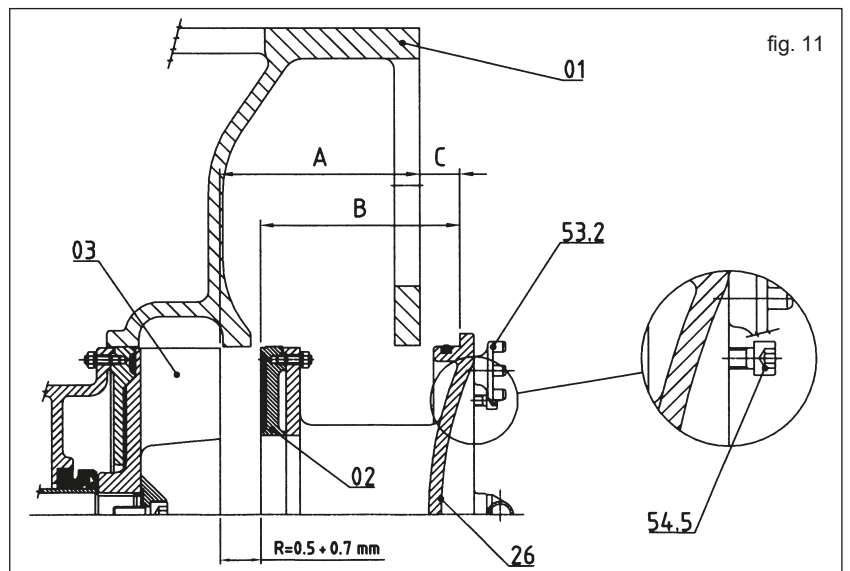

fig. 11
**13.7 Impeller positioning with respect to wear plate(s) (fig. 11)**